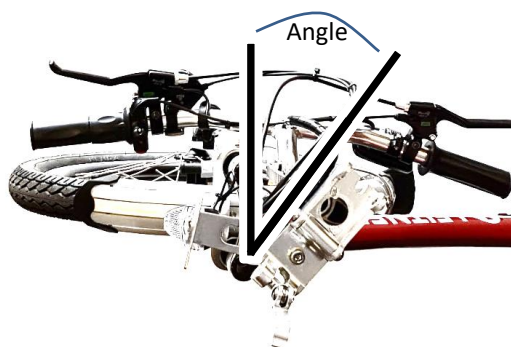

Figure QF3: view from top. Handle-stem is folded to the side of bike. Note the angle of about 40 degrees.
Figure QF7: Correctly installed handle-stem. view from side. **The hinge at the base of the handle stem (3)** of the Libelle and Tirol is at a 40 degree angle. This makes it possible to fold the stem down nicely to the side of the bike (Figure QF3). Use the **top quick-release (1)** to adjust the handle-stem height by a couple of cm. Use the **bottom quick release (3)** to securely hold the stem in an upright, non-folded position. **Minimum insertion mark (14)** must not be visible.